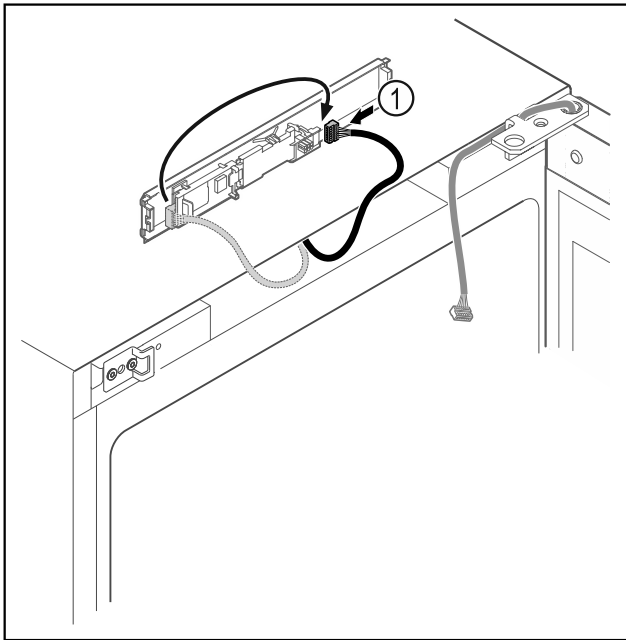

Fig. 13
- Connect the plug Fig. 13 (1) to the circuit board.